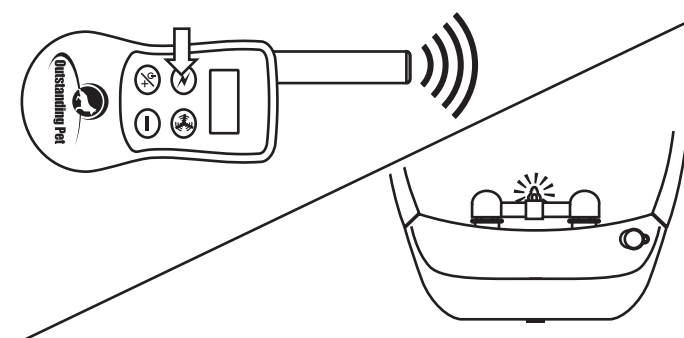

figure 5 – Receiver Collar Test Light Turning On
2. Press the (⊗) button on the Remote Transmitter, the Test Light will turn on (figure 5).